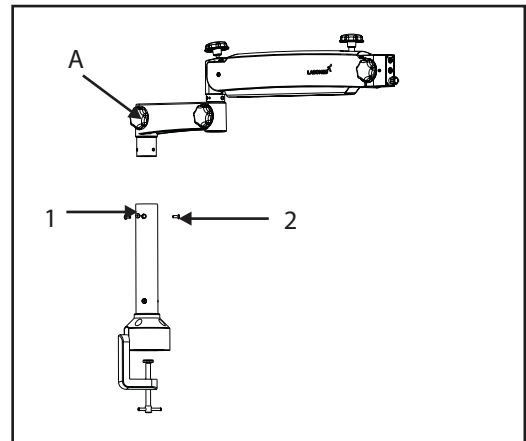

Fig. 3
Ensure loosening of swivel arm lock knob (A). Install the swivel arm assembly on the upright column (1) figure 3.
Tighten the screw (2) as shown in fig. 3 for proper securing the swivel arm with suspension arm.